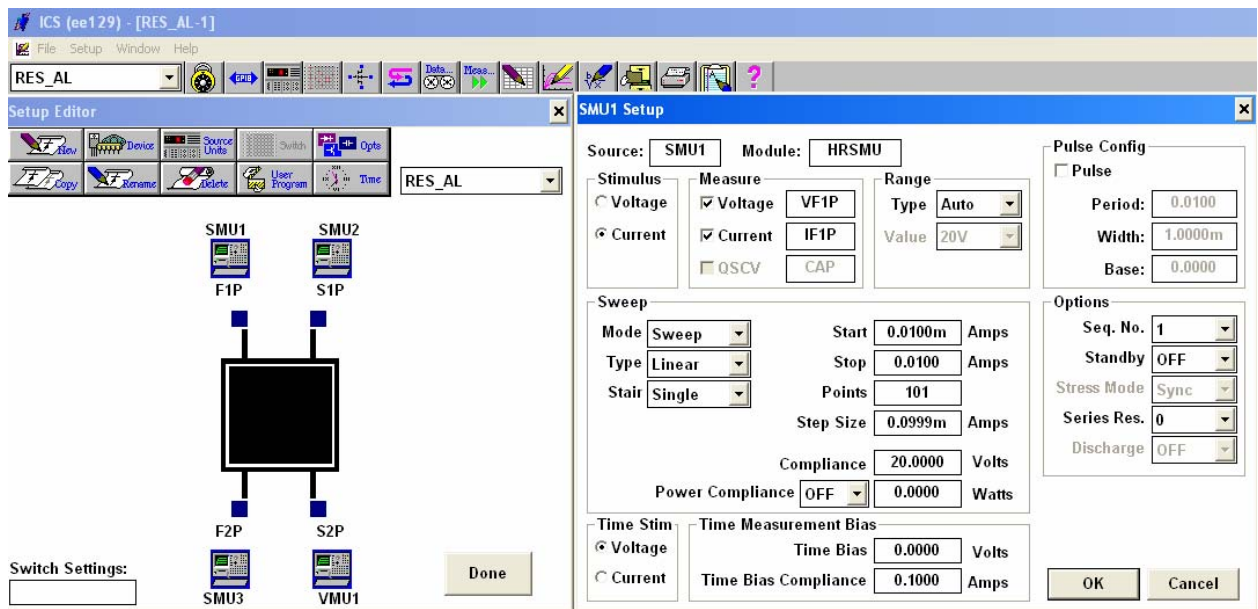

Figure 59: RES_AL setup
4. To see the arrangement of the probe connections, go to set up editor in the menu bar. Set up editor should look like figure 59.